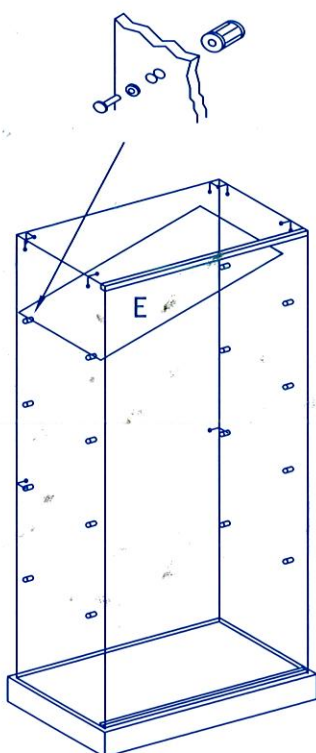

FIG. 4
- FIG. 4 VISSER TOUS LES SUPPORTS POUR ETAGERES AUX COTES ET PLACER LES TABLETTES (E).
- FIG. 4 TIGHTEN THE SHELF-SUPPORTS TO THE LATERAL SIDES AND PLACE THE GLASS SHELVES.
- FIG. 4 SCHRAUBEN SIE DIE GLASTRAGER AN DER SEITE EIN UND STELLEN SIE DIE GLASPLATTEN
- FIG. 4 ATORNILLAR LOS SOPORTES POR ESTANTES A LOS LATERALES Y PONER LOS ENTREPANOS (E).
- FIG. 4 AVVITARE TUTTI I REGGIRIPIANI ALLE 2 SPALLE ED APPOGGIARVI I RIPIANI (E) IN DOTAZIONE.